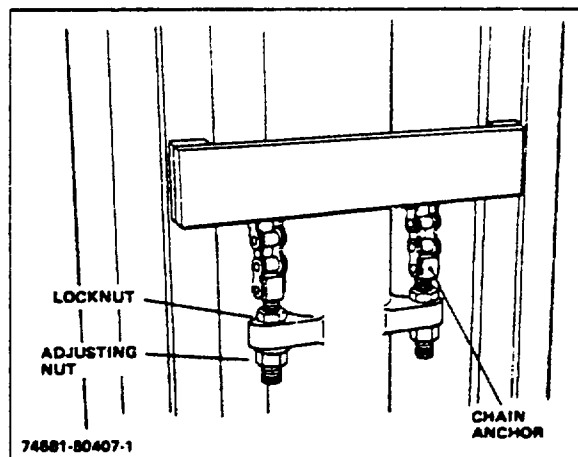

Figure 1-4. Chain Adjustment (on cylinder)
2. Loosen chain anchor locknuts (Fig 1-4).